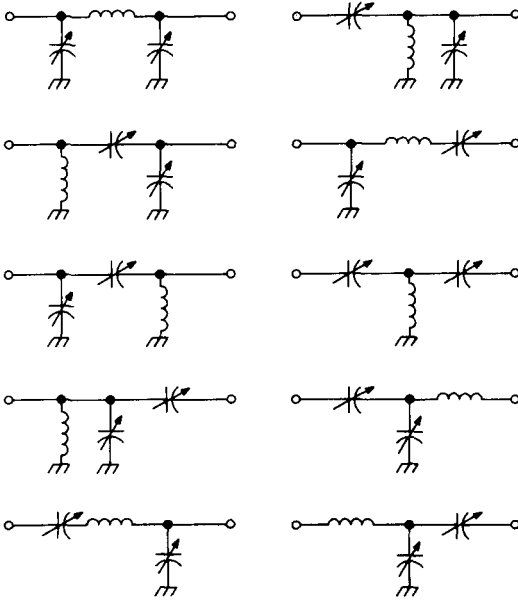
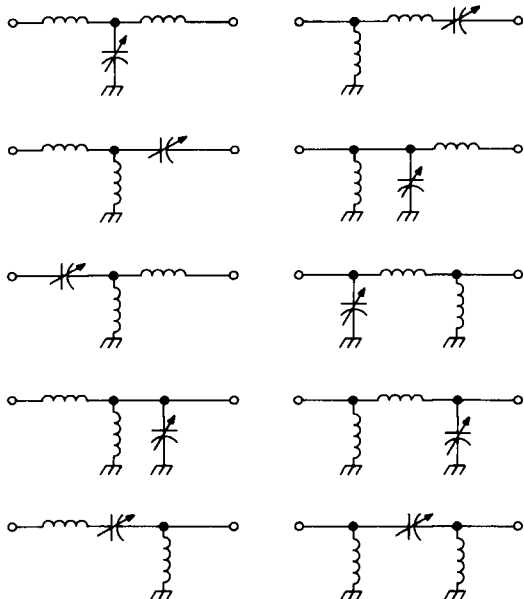

fig. 1. Matching networks that use one inductor and two capacitors.
fig. 3. Matching networks that use one capacitor and two inductors.
Fig. 1 shows circuits using a single inductor and two capacitors. Notice that some are simply others "turned around." They should not be disregarded, however, because
An antenna coupler can be built with sufficient switching capabilities to use all ten of the possible combinations shown in fig. 1. All circuits except one can be constructed with one side of one of the variable capacitors connected to ground. This greatly simplifies construction since only one "floating" variable capacitor is required.
wide range of impedance-matching capabilities can be made using the circuits of **fig. 3** if each inductor has a maximum value of 10-20  $\mu\text{H}$  and the variable capacitor has a range of 350 pF or more. This should permit matching a 16- to 20-foot or rod wire on 80 meters without difficulty. The cost of such a coupler can be fairly high if new commercial components are used. If you use surplus components, such as the capacitors and
**fig. 2.** Nine of the ten circuits shown in **fig. 1** can be formed with this circuit (the tee network with the two floating capacitors is the exception). Capacitors **C1** and **C2** are 250-pF air variables (Hammarlund MC-250-M); the inductor is a B&W 3900, 5 to 6 inches long, tapped with a spring clip.
Matching circuits using two inductors and one variable or fixed capacitor are shown in **fig. 3**. These are the equivalent of the single-inductor, two-capacitor circuits of **fig. 1**, but they do have some different features.
With extremely short antennas (one-eighth wavelength or less), some of the **fig. 3** circuits will give superior coupling efficiency—provided the inductors have low ohmic losses. This is very important, as discussed below.
When using a coupler of the type in fig. 2 with random-length antenna wires (30 feet or more), note that several coupler forms on the same band might produce a minimum swr. In each case all coupler component values should be adjusted to achieve a minimum swr when the coupler is set for a specific circuit form. The same situation will often occur when using the coupler forms shown in fig. 3.
fig. 3. The logarithmic speech processor schematic. An fet source-follower output circuit (dotted lines) is recommended for use with low-impedance input equipment.
and a common emitter amplifier, fig. 3. Output may be taken directly from the 1N34A's if the processor is to be used with equipment having high impedance input (250 kilohm or greater). If the circuit is to be used with low-impedance equipment, such as the SB-34 transceiver, a source follower output circuit (dotted lines, fig. 3) is recommended.